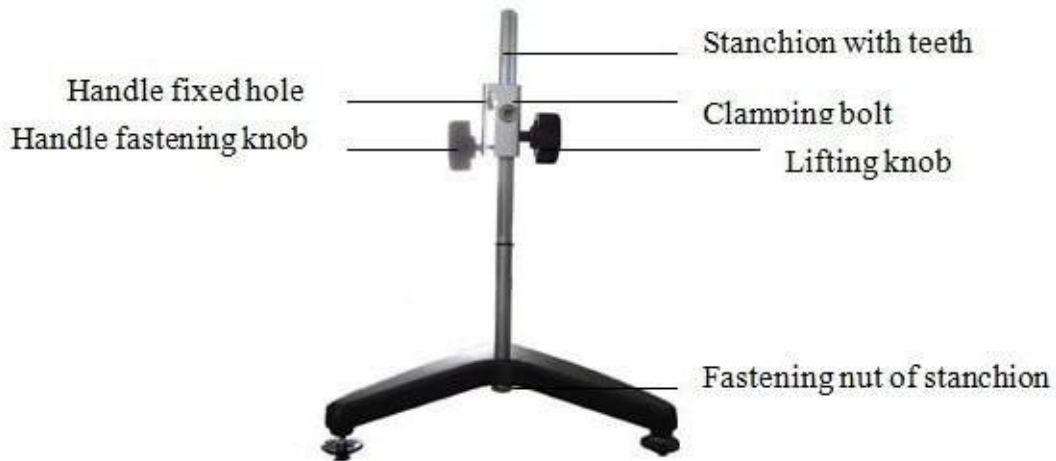

Figure 2
- iii. Screw the stanchions into the hole on the base, put the tooth side of the stanchions facing on the front of base, and tight it by a wrench to avoid loosen (Figure 2).